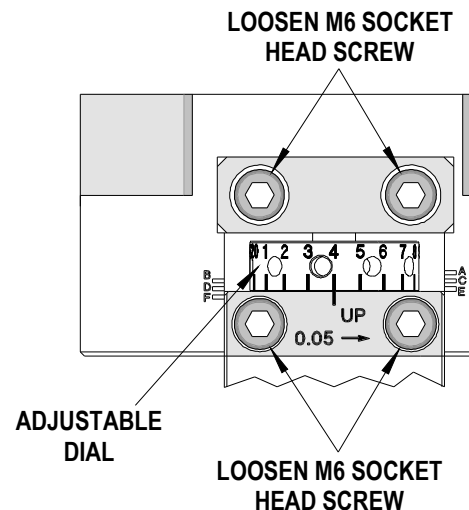

Figure 2-2
- b. Rotate the adjustment dial to the right to raise shut height or to the left to decrease. Dial indicator lines represent increments of .05mm (.002"). See Figure 2-2.